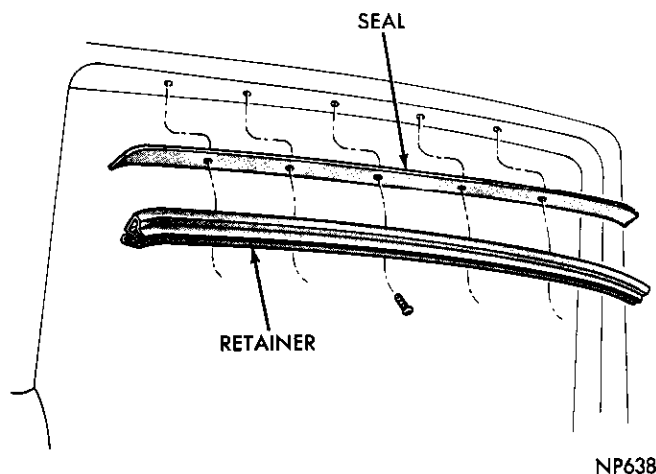

Fig. 77—Upper Retainer and Seal
- (1) Remove screws attaching the glass run retainer on roof rear header and remove retainer (Fig. 77).
- (2) Remove seal assembly from roof header.
- (3) Remove headlining rear corner retainer.
- (4) Remove headlining rear retainer from roof rear header outer reinforcement.